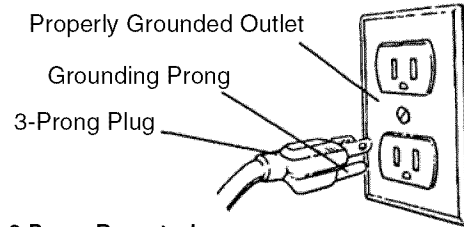

Figure 4 - 3-Prong Receptacle
- This tool is equipped with an approved 3-conductor cord rated at 300V and a 3-prong grounding type plug (see Figure 4) for your protection against shock hazards.
- Grounding plug should be plugged directly into a properly installed and grounded 3-prong grounding-type receptacle, as shown (Figure 4).